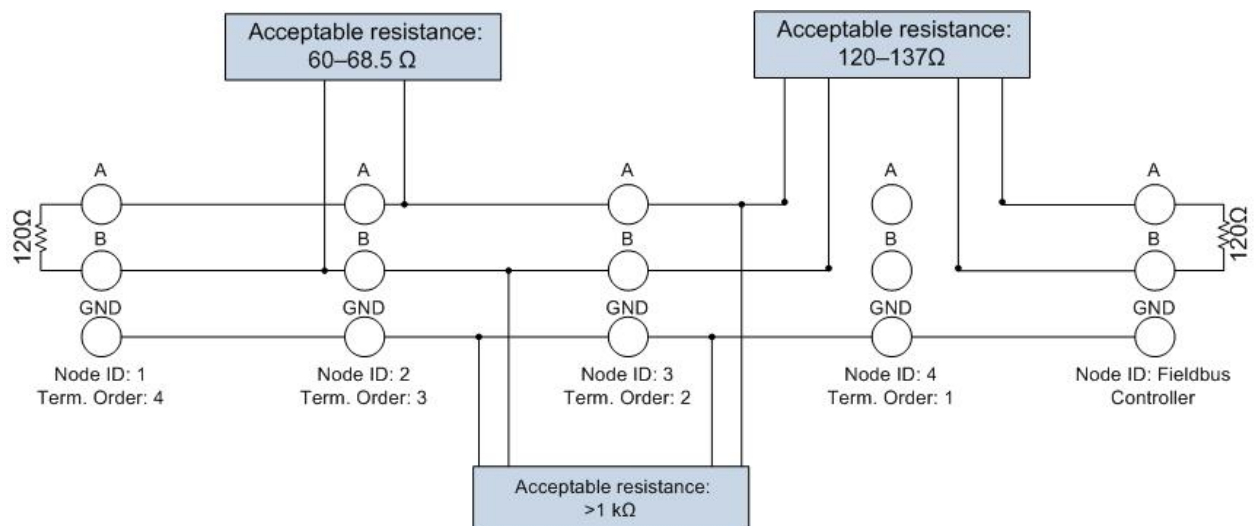

Fig. 10. Measuring loop resistance on Modbus loop
7. Measure loop to make sure it is terminated and all actuators connected correctly, see Fig. 10.